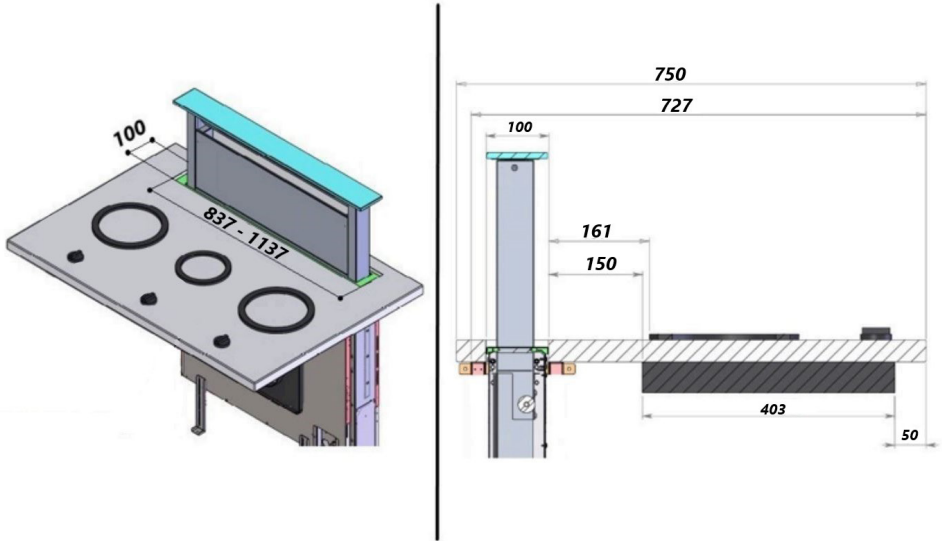

Fig. 2
3. Make a rectangular hole 837x100 mm for the 880mm version or 1137x100 mm for the 1180mm version in the rear part of the hob (see fig. 2).